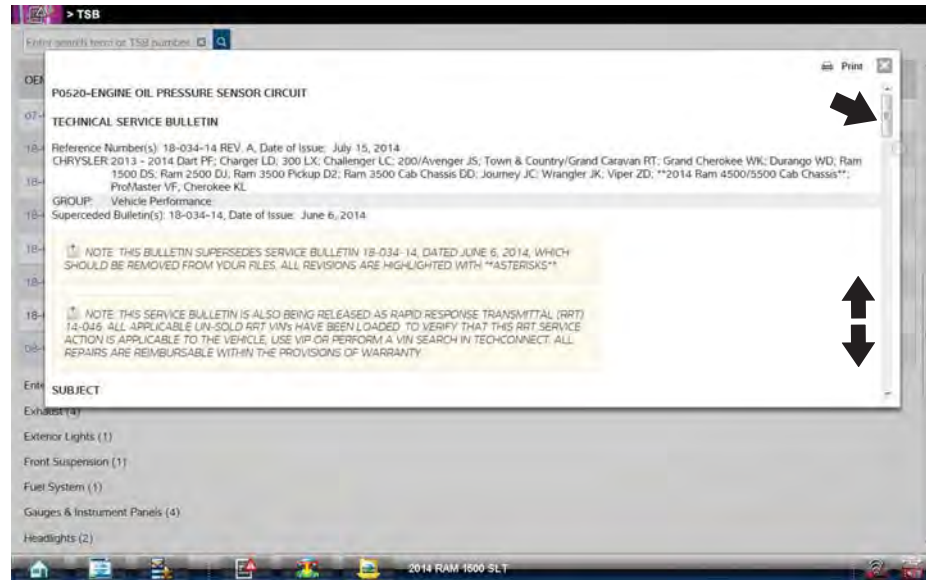

Figure 10-10 Typical - TSBs display window
2. Select a link to display service information (Figure 10-10). Use the scrollbar to view all the contents of the window.
Selecting the **Print** icon opens the print preview screen (Figure 10-10),